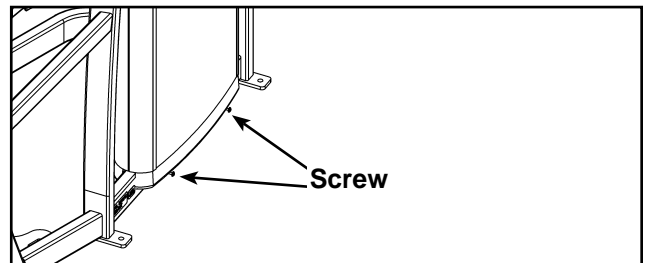

Figure 11
- A. Carefully place shroud back into position on the two bottom screws. See Figure 11.